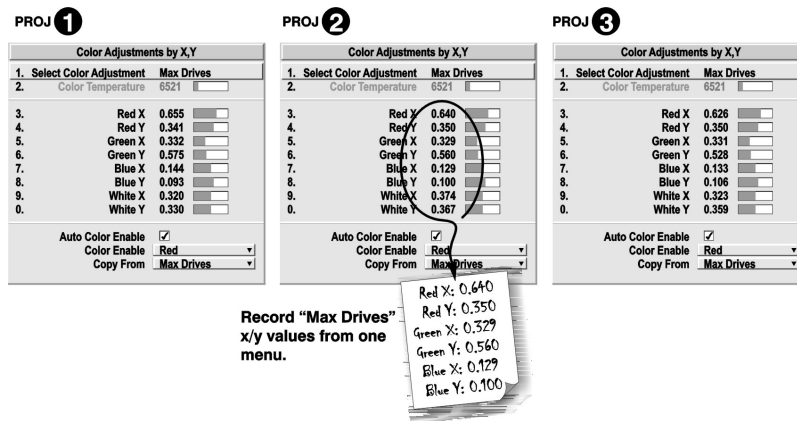

Figure 3-40 Jot Down a Set of "Max Drives" X/Y Values
4. Display the **Color Adjustments by X, Y** menus for all projectors. Each menu shows the x/y coordinates defining the "Max Drives" color gamut for this projector. Write down the values shown in one (any) of the displays. Refer to *Figure 3-40*. Or use "Copy From" to copy these into a "User" gamut for this projector.